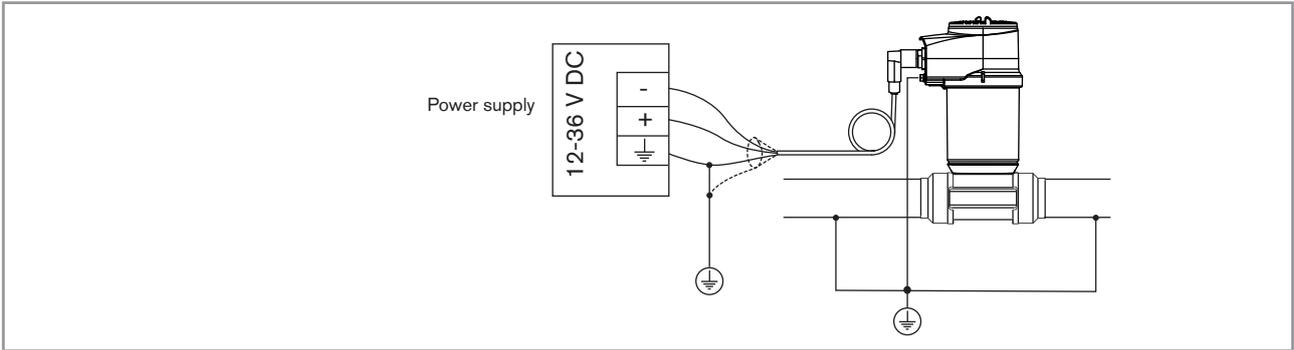
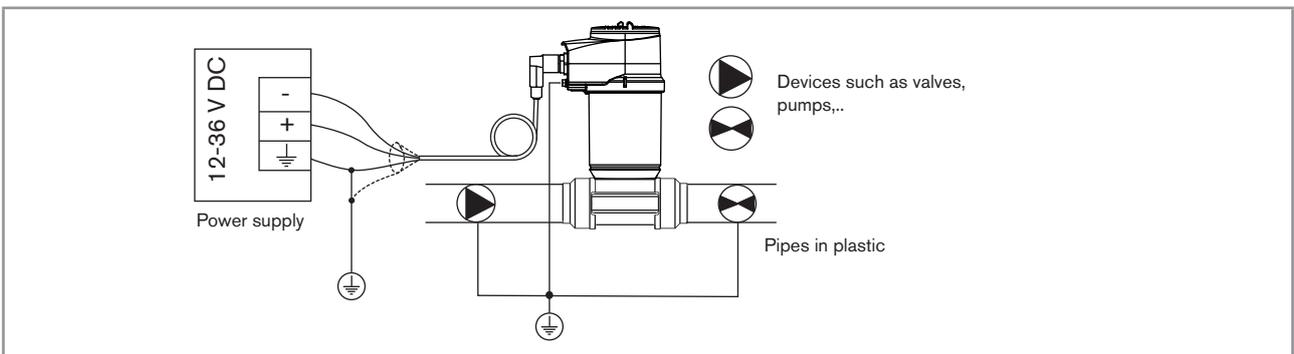

Fig. 15 : Equipotentiality skeleton diagram with pipes in metal
Fig. 16 : Equipotentiality skeleton diagram with pipes in plastic
- Observe faultless grounding of the shield of the power supply cable (see Fig. 15 and Fig. 16).
- Special attention has to be paid if the device is installed on plastic pipes because there is no direct earthing possible. Proper earthing is performed by earthing together the metallic devices such as pumps or valves, that are as close as possible to the device (see Fig. 16).